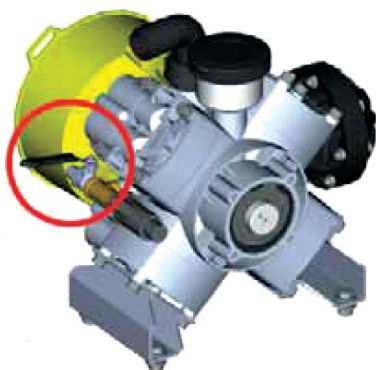

Figure 33
Then remove the external suction hose (Figure 32) and replace the cover of the check valve filter. (Figure 33)
4. Open the hydraulic mixer valve which is on the pump (Figure 33)